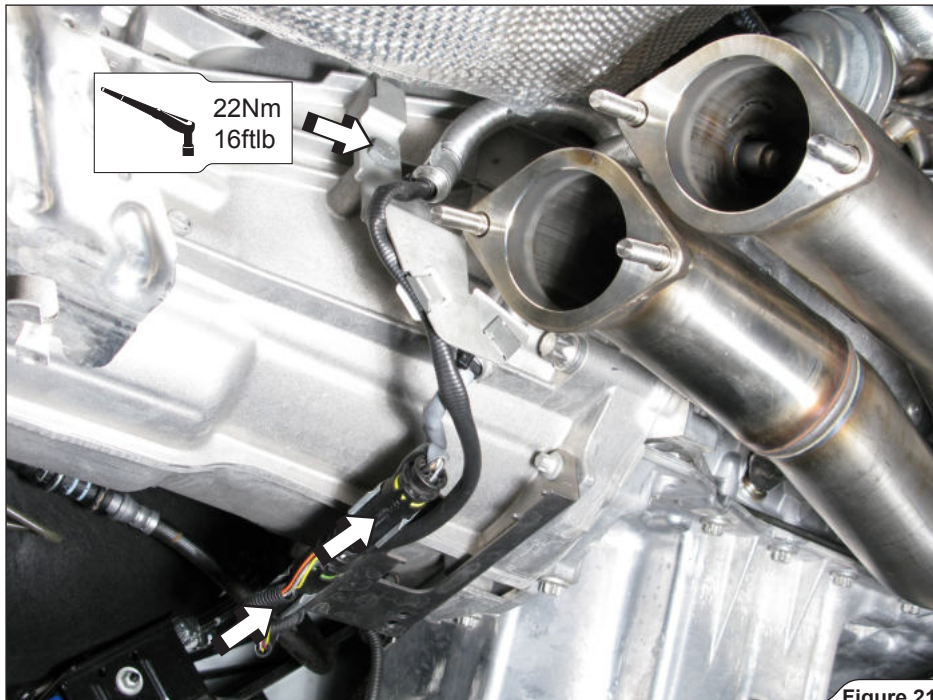

Figure 21
5. **For optional Down Pipes:** correctly assemble the rear lambda sensors' connectors and reinstall the sensors electrical leads bracket (**Figure 21**).